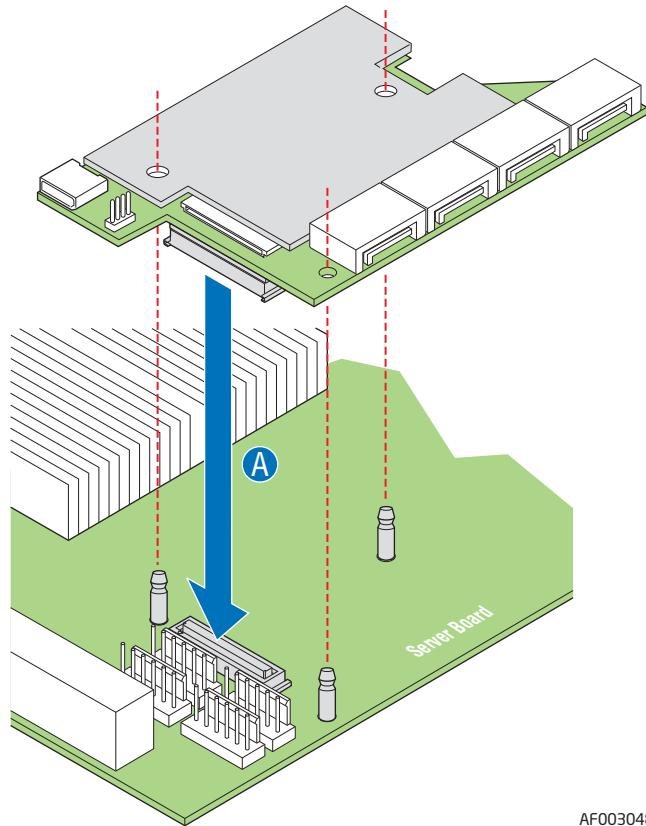

Figure 2. Installing the Intel® Integrated RAID Module SROMBSASMR
4. Attach the Intel® Integrated RAID Module SROMBSASMR module card to the matching server/workstation board connector, and press the module card firmly to engage the snap standoffs installed in step 3 (see Figure 2).